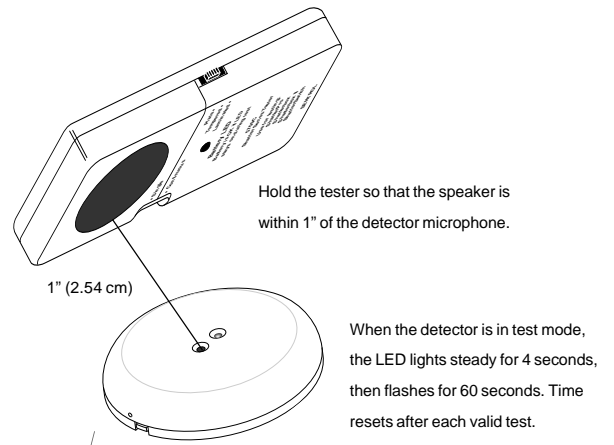

Figure 8 - Using the Tester
- Hold the tester close to the detector. See Figure 8.